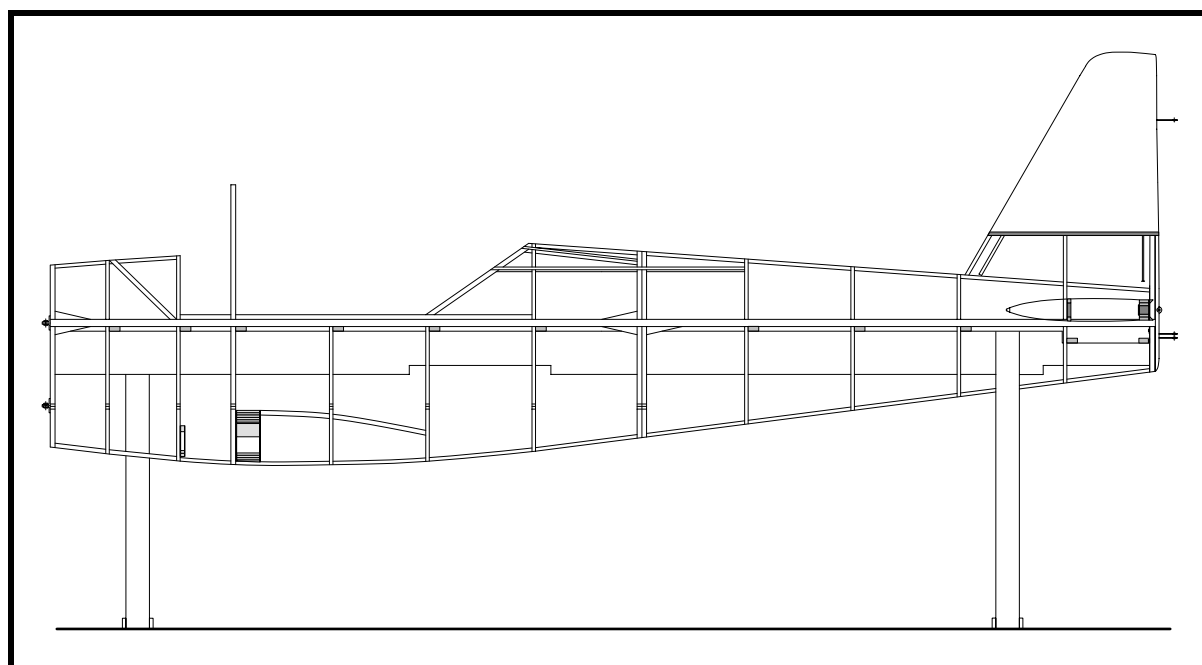

Figure 35
- ❑ Cut the top of the diagonal frame No. 2 for the forward top center longeron, and glue the longeron and the diagonal frame in place. See Figure 35.